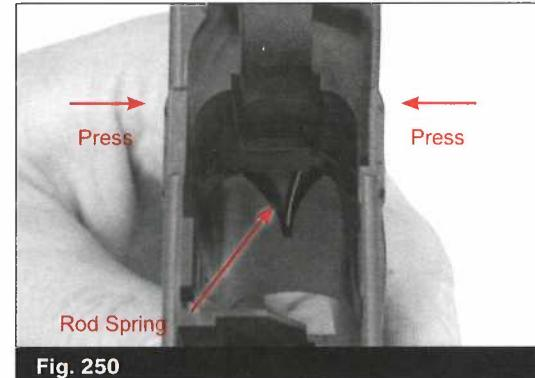

Fig. 249
- To remove the slide lock spring position your hand over the slide lock spring area. Then turn the receiver upside down and catch the spring. (Fig. 249)